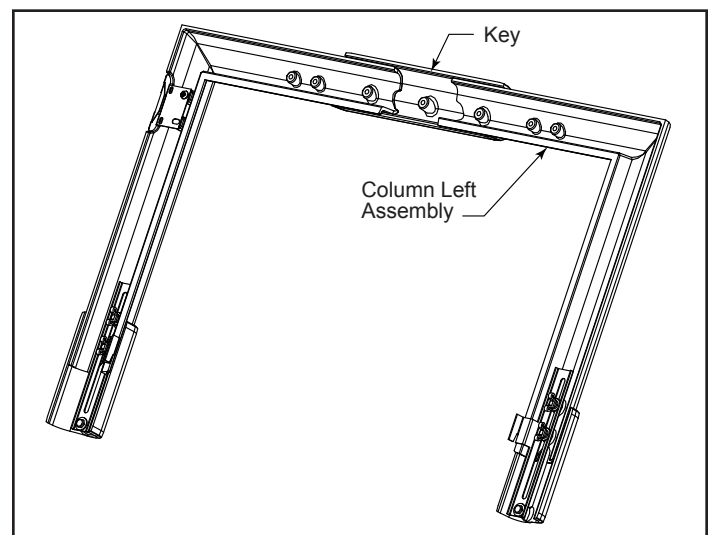

Figure 2 - Place column left assembly onto key.
3. Place the column left assembly onto key, Figure 2.